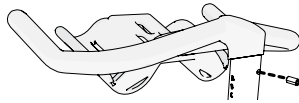

Figure 9
2. Insert a set screw **6** into the opposite side of the handlebar post (Figure 9) and tighten it using a hex key **9**.